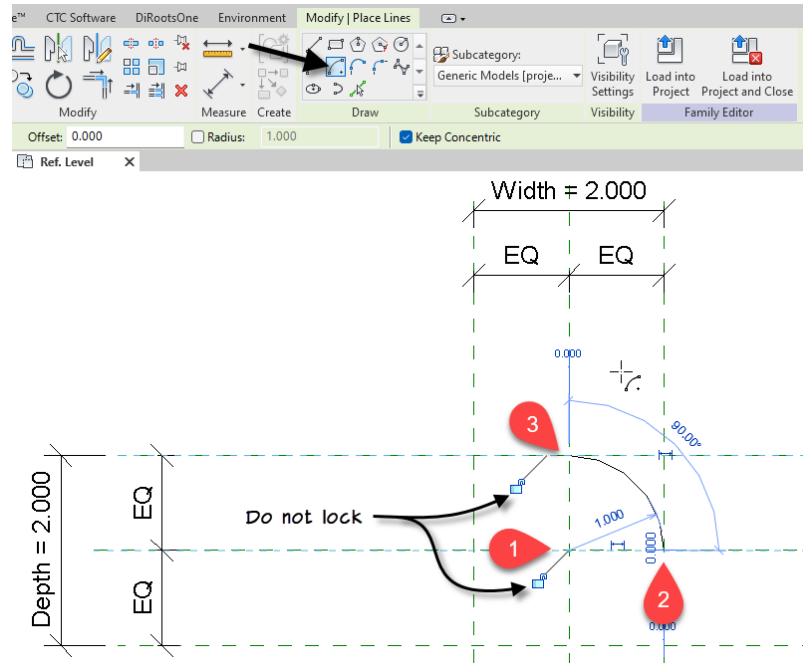

Figure 12—Create a Model Line arc centered on the reference planes
6. Select the radius dimension and label it with the existing Depth parameter (see Figure 12).